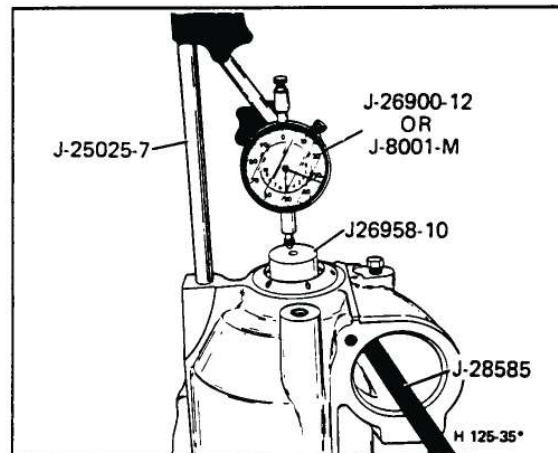

Figure 54 Final Drive End Play Selective Thrust Washer Measurement (680)
Measure (Figures 54 and 55)
- Reading on the dial indicator should be 0.12-0.82 mm (0.005"-0.032") For correct washer selection, see Figure 54.